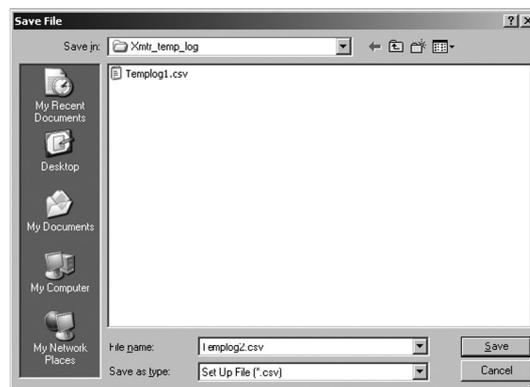

Fig.151
- ⑥ Click the "OK" button again to display the most recent log entry.
- ⑦ It is also possible to save a log to a file here. Click the "Save" button to display Fig. 151, specify the save location and file name, and then click "OK" to create a CSV file, completing the save process.